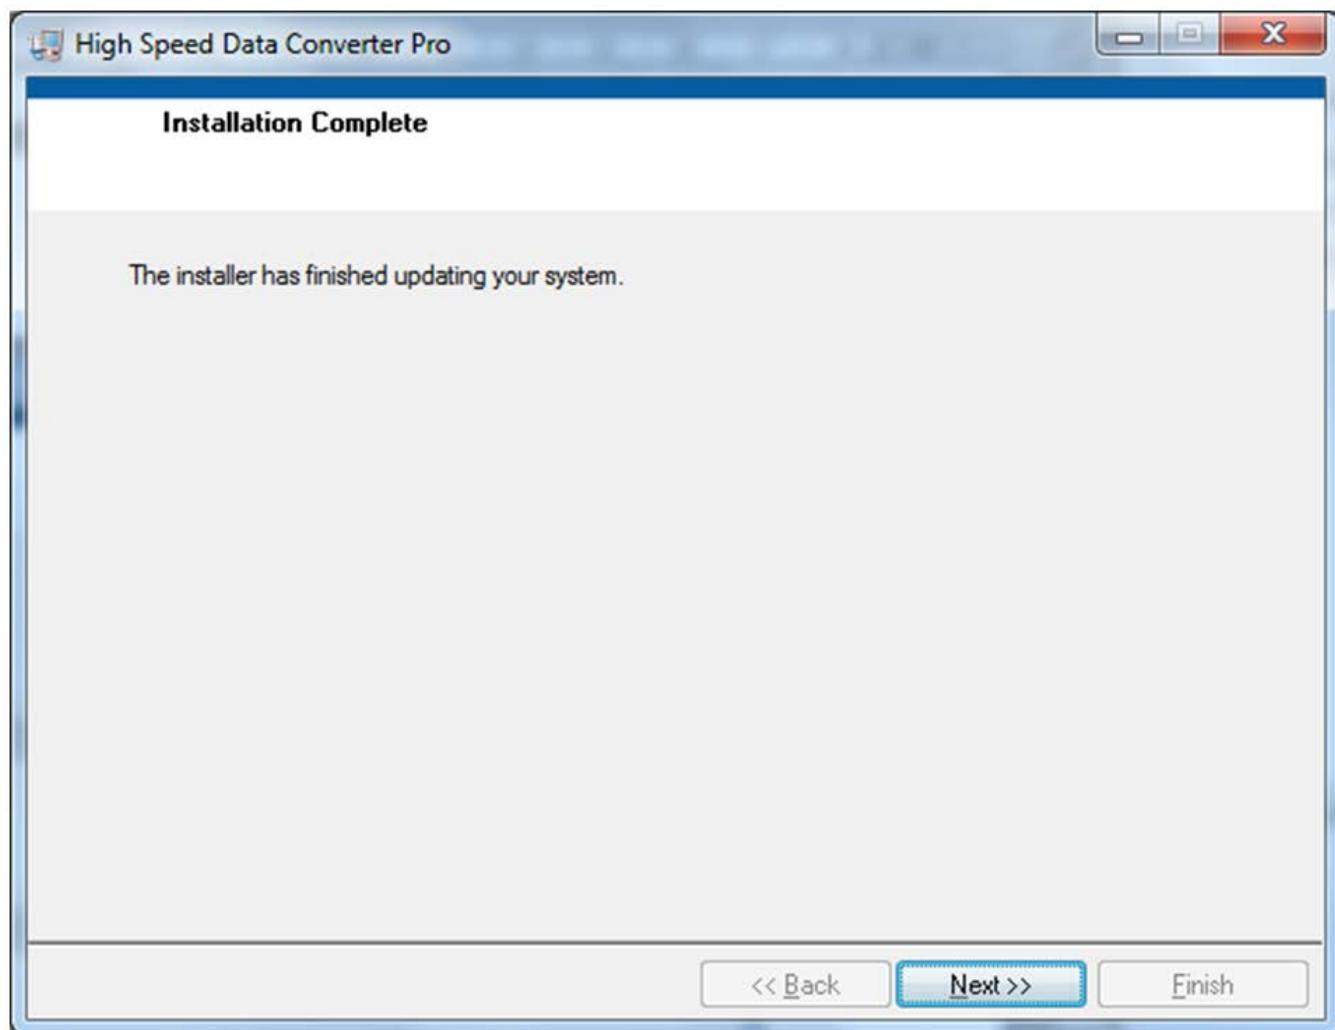

Figure 37. HSDCPro Install (Installation Complete)
- The window shown in Figure 37 appears indicating *Installation Complete*. Press the *Next* button.